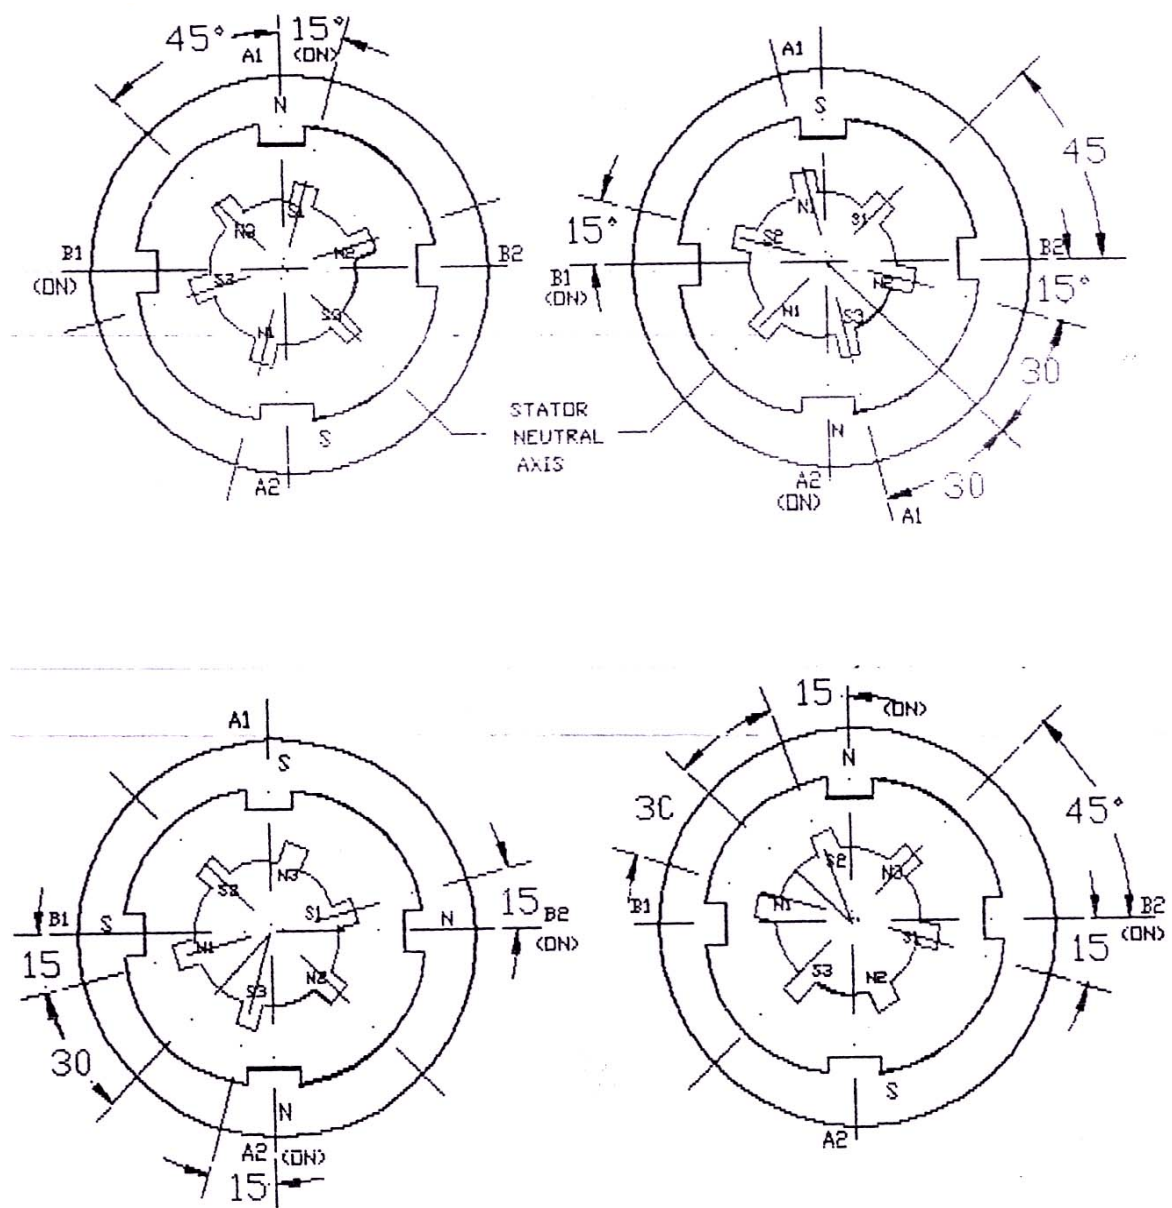

Fig.2-4 2-Phase Drive Scheme
Typical equilibrium conditions of the rotor when the windings on two successive stator poles are excited are illustrated in Fig.2.4. In step (a), A1 and B1 are energised. The pole-face S1 tries to align itself with the axis of A1 (N) and the pole face S2 with B1(N). The north pole N3 of the rotor finds itself in the neutral zone between A1(N) and B1(N). S1 and S2 of the rotor, position themselves symmetrically with respect to the two stator north pole.